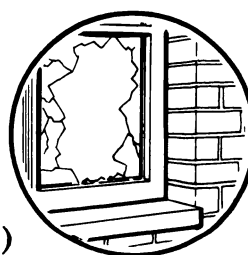

Fig. 1
1. Work from the outside of the frame. (Fig. 1)